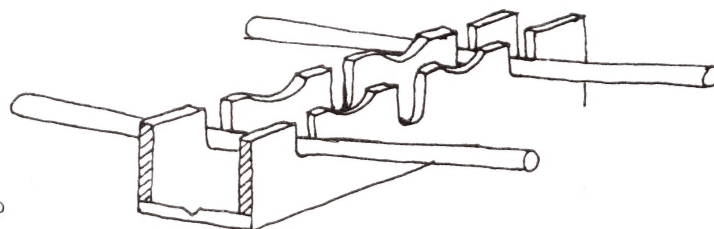

FIG. 12
Step 18 - locate the other frame by placing two long pieces of $\frac{1}{8}$ " drill rod in the outside slots (you had plenty left over), and adjusting them perpendicular to the frames. Solder the second frame in place. See Figure 12.